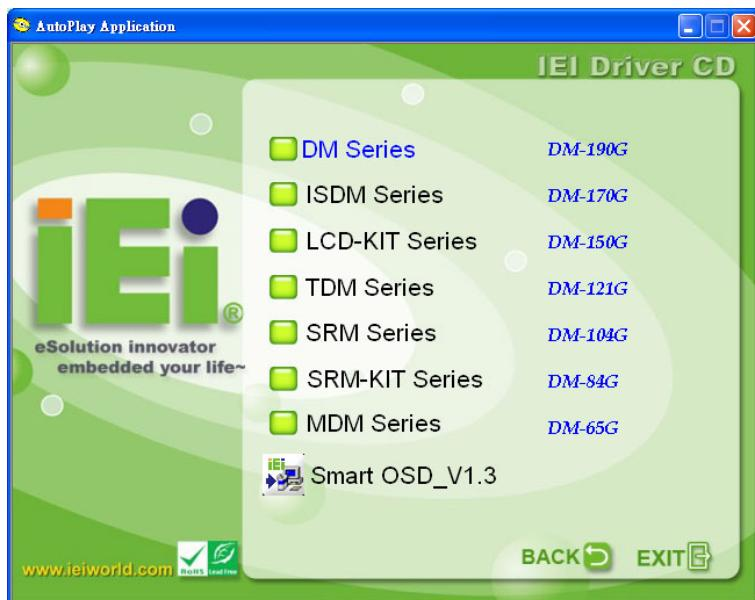

Figure C-1: smartOSD Installer
**Step 1:** When the CD installs the screen shown in Figure C-1 appears.
**Step 2:** Click "Smart OSD" in Figure C-1.